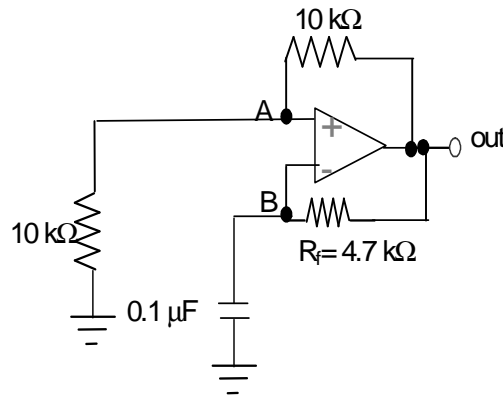

Figure 1. Relaxation Oscillator: Op amp with positive and frequency dependent negative feedback.
1. Consider the circuit of Figure 1.